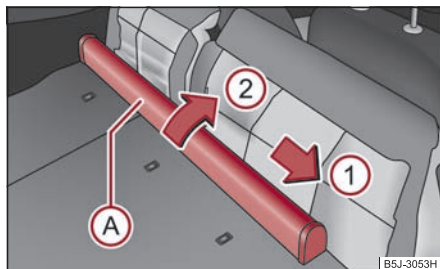

Fig. 91 Rear seats: Net partition housing
- Push the net partition housing **(A)** ⇒ fig. 91 in the direction of arrow **(1)** and take it out of the mounts of the rear seat backrests on the right in the direction of the arrow **(2)**.